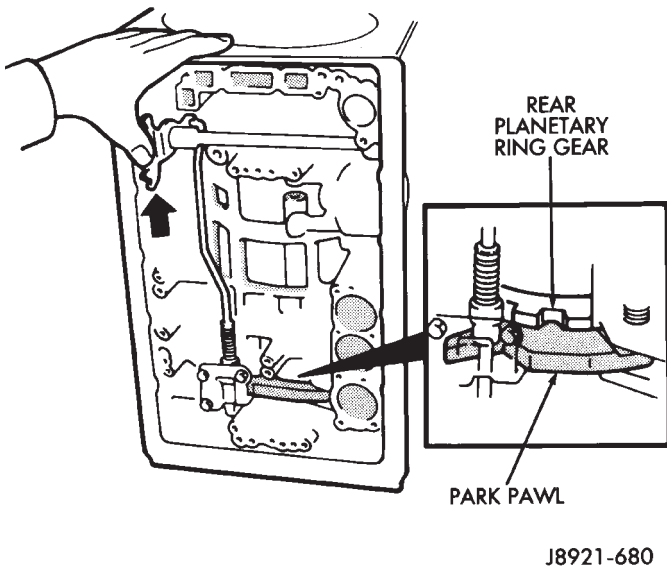

Fig. 13 Checking Park Pawl Engagement
(16) Verify park lock operation. Move shift sector to Park position. Park pawl should be firmly engaged (locked) in planetary ring gear (Fig. 13).